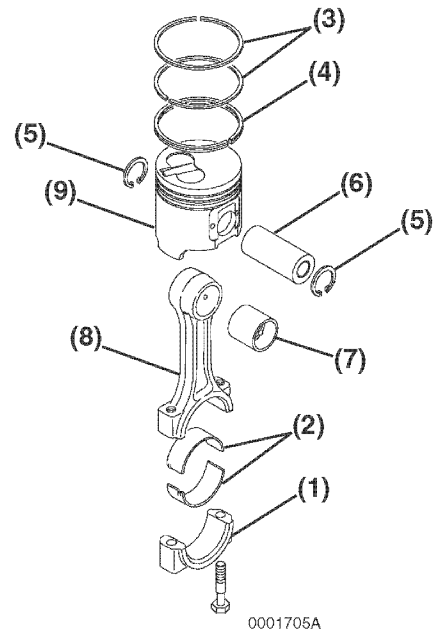

Figure 6-86
- 5. Lubricate and install the wrist pin (**Figure 6-86, (6)**) through the piston and connecting rod.
- 6. Reinstall the second circlip (**Figure 6-86, (5)**) and ensure it is securely seated in the groove.